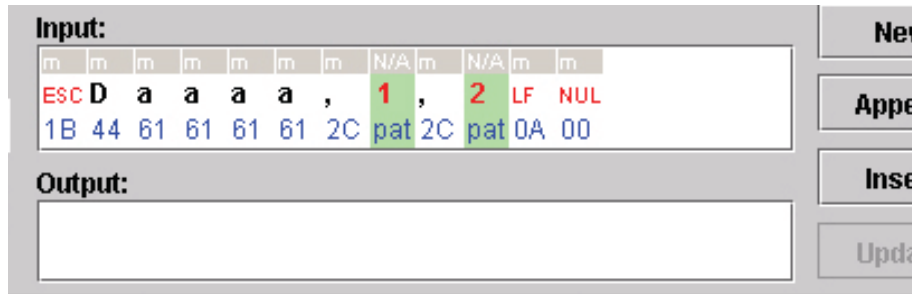

Figure 159 Entering the Input String
25. Press the right arrow key, then the down arrow key and type `0A00` (for LF and NUL). See Figure 159.